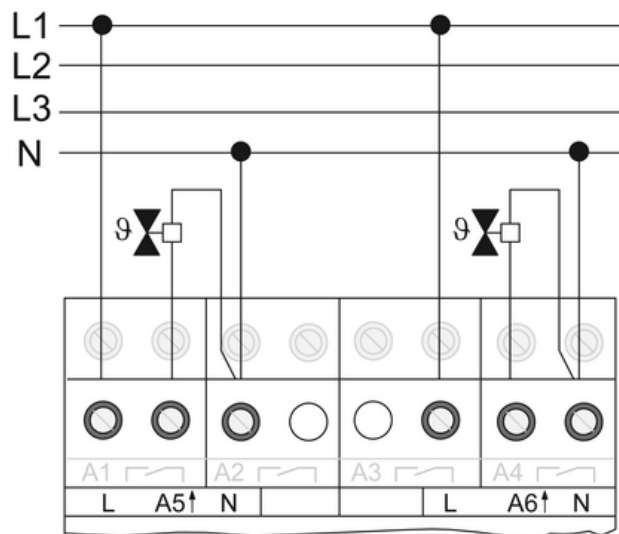

Figure 6: Connection example of electrothermal actuators 230 V
- Connect actuators (Figure 6). Use a maximum of 4 actuators per output.